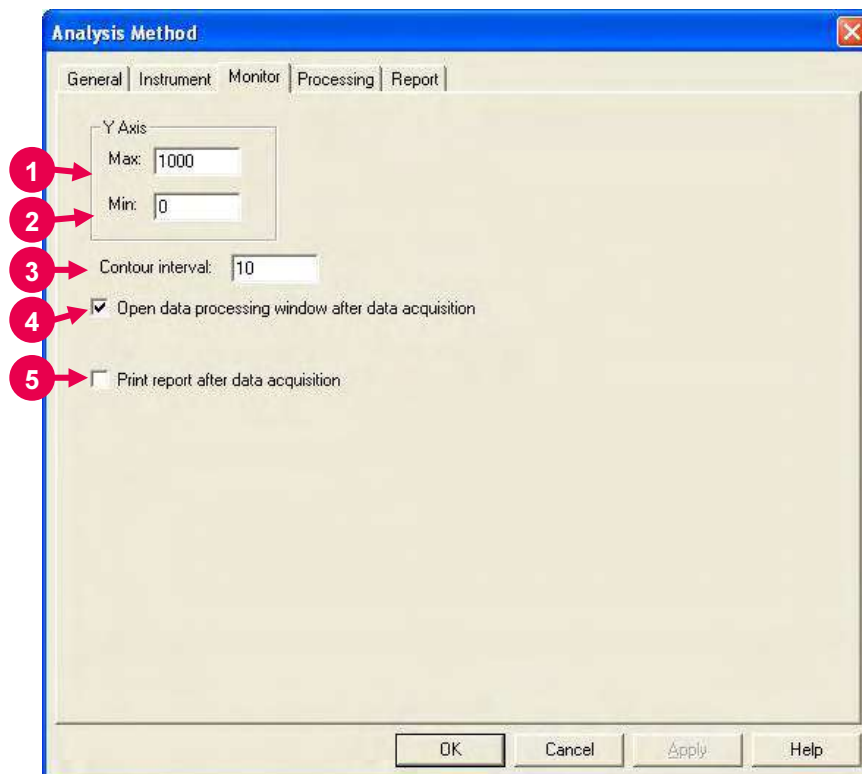
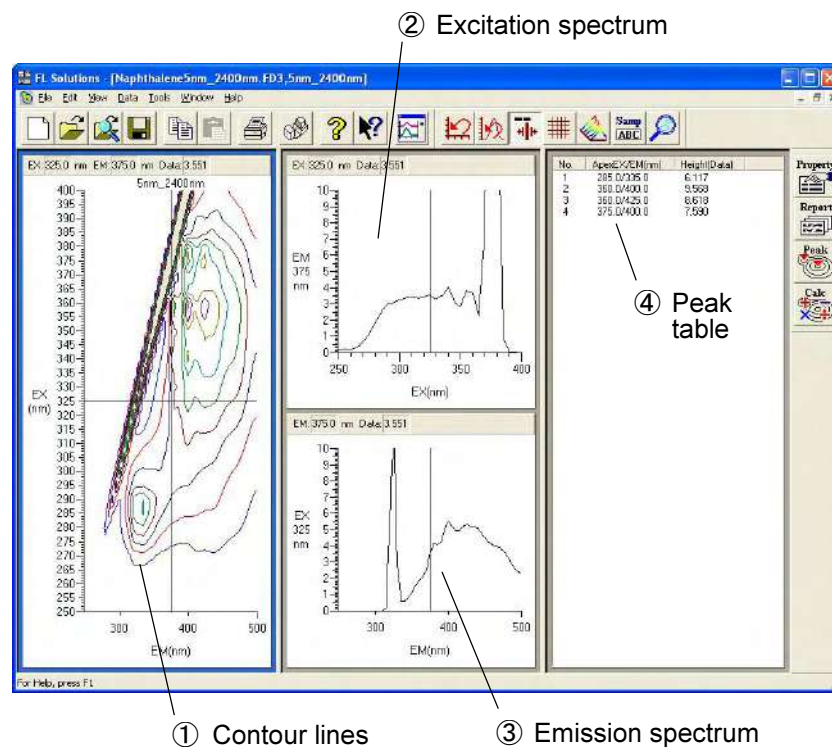

Fig. 5-5 Monitor Tab
Fig. 5-11 Data Processing Window (3-D scan)
When selecting the Monitor tab, the window in Fig. 5-5 appears. For the settable range of each parameter, refer to Appendix G.
- (5) When measurement is completed, the data processing window appears as shown in Fig. 5-11. This is available only when a check mark is put for “Open data processing window after data acquisition” at the ‘Monitor’ tab of Analysis Method. (See ④ in Fig. 5-5.)
- (1) Click on the spectrum window, and the circumference turns blue. In this status, select the Print command from the File menu.
Or click the  (print) button on the toolbar. The field active on the data processing window (e.g., ① in Fig. 5-11) will be printed. What is displayed by clicking the Print Preview command in the File menu will be printed.